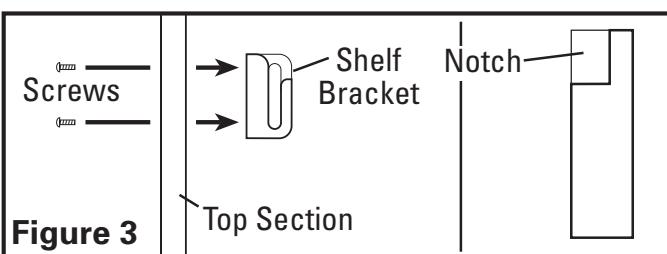

Figure 3
3. **Optional Shelves:** Before installing the top section of the back splash, the shelf brackets and shelves must be installed. Install one of the outer shelf bracket by securing it from the back side of the back splash with the included screws, through the predrilled holes. Make sure the notched side of the bracket is facing outward (**Figure 3**).